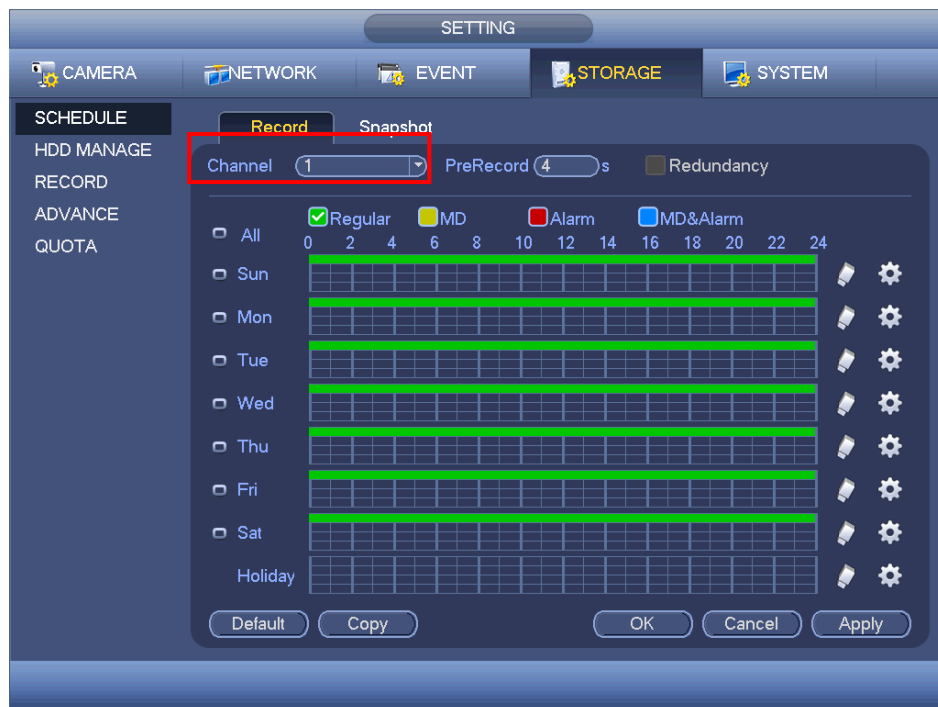

Figure 4-117
- In main menu, from Setting->Camera->Encode->Schedule interface, please enable snapshot function. See interface on the right of Figure 4-117.